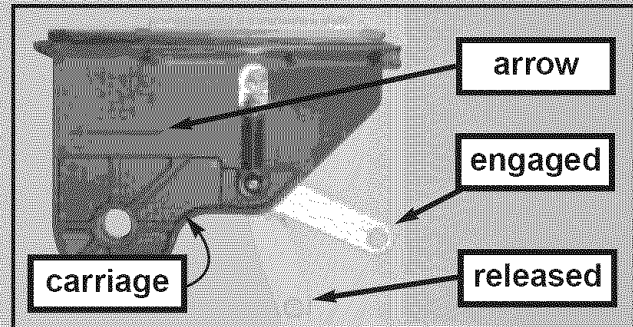

Fig. 1-14
- Place emergency release lever in released position. **Fig. 1-14.**
- Make sure arrow on side of carriage (**Fig. 1-14**) is pointing away from power head. (Emergency release lever will be facing power head.)